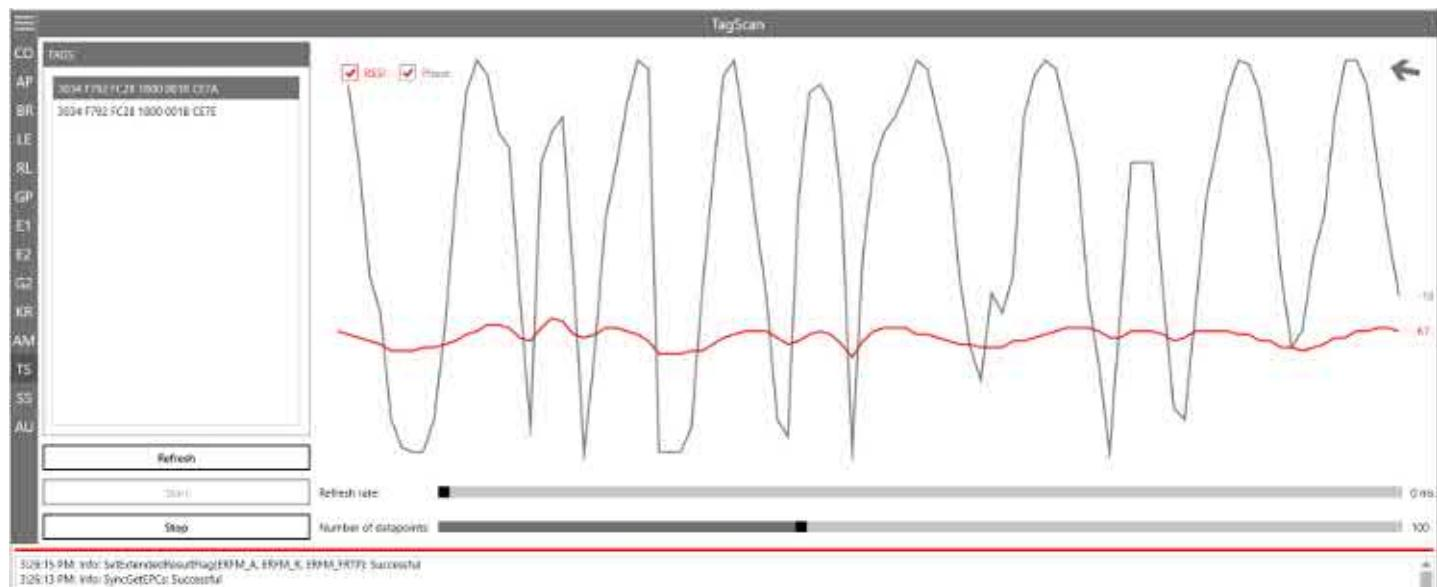

Fig. 78: TagScan: phase shift, transponder is moved
①	ETSI	selects the frequency area
②	Antenna 1-n	selects an antenna from the drop-down menu
③	Start	starts SpectralScan
④	Stop	stops SpectralScan
⑤	Reset maxima	resets maxima
If there is more than one reader, spectral scan shows which channels might be occupied by other readers. In Fig. 78, p. 113, the channels 4, 10 and 13 are occupied by other readers. If the user is not satisfied with the reading results and the interferences keep occurring, it is possible to deactivate channels on which the interference occurs (4, 10 and 13) and only activate the channel that is free (7) to achieve better reading results, see ⑯ in Fig. 56, p. 94.